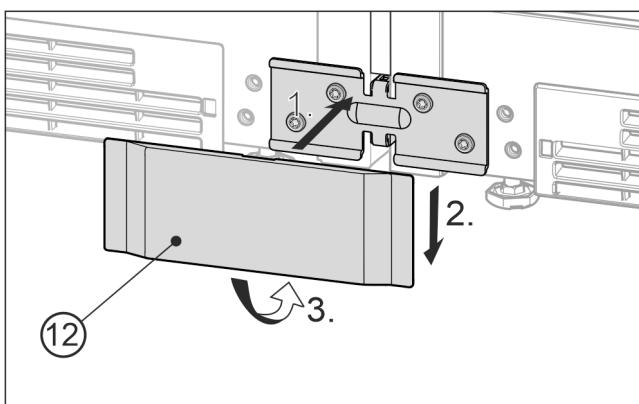

Fig. 22 Example illustration
- ▶ Place the bottom cover Fig. 22 (12) onto the bracket from the front Fig. 22 (1), slide it down Fig. 22 (2) and snap it in at the bottom Fig. 22 (3).